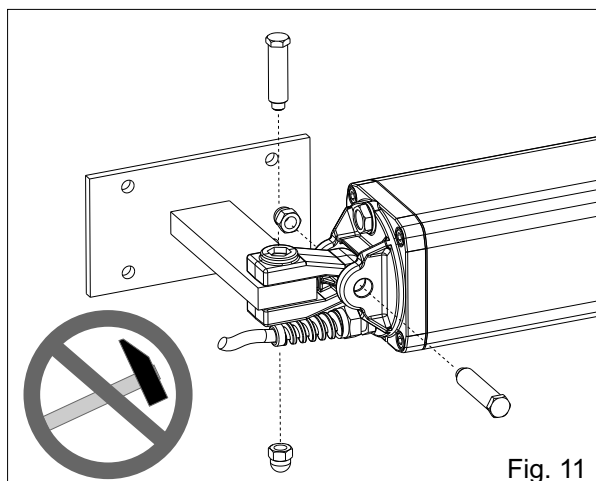

Fig. 11
- Fix the oscillating fork as in fig.11.